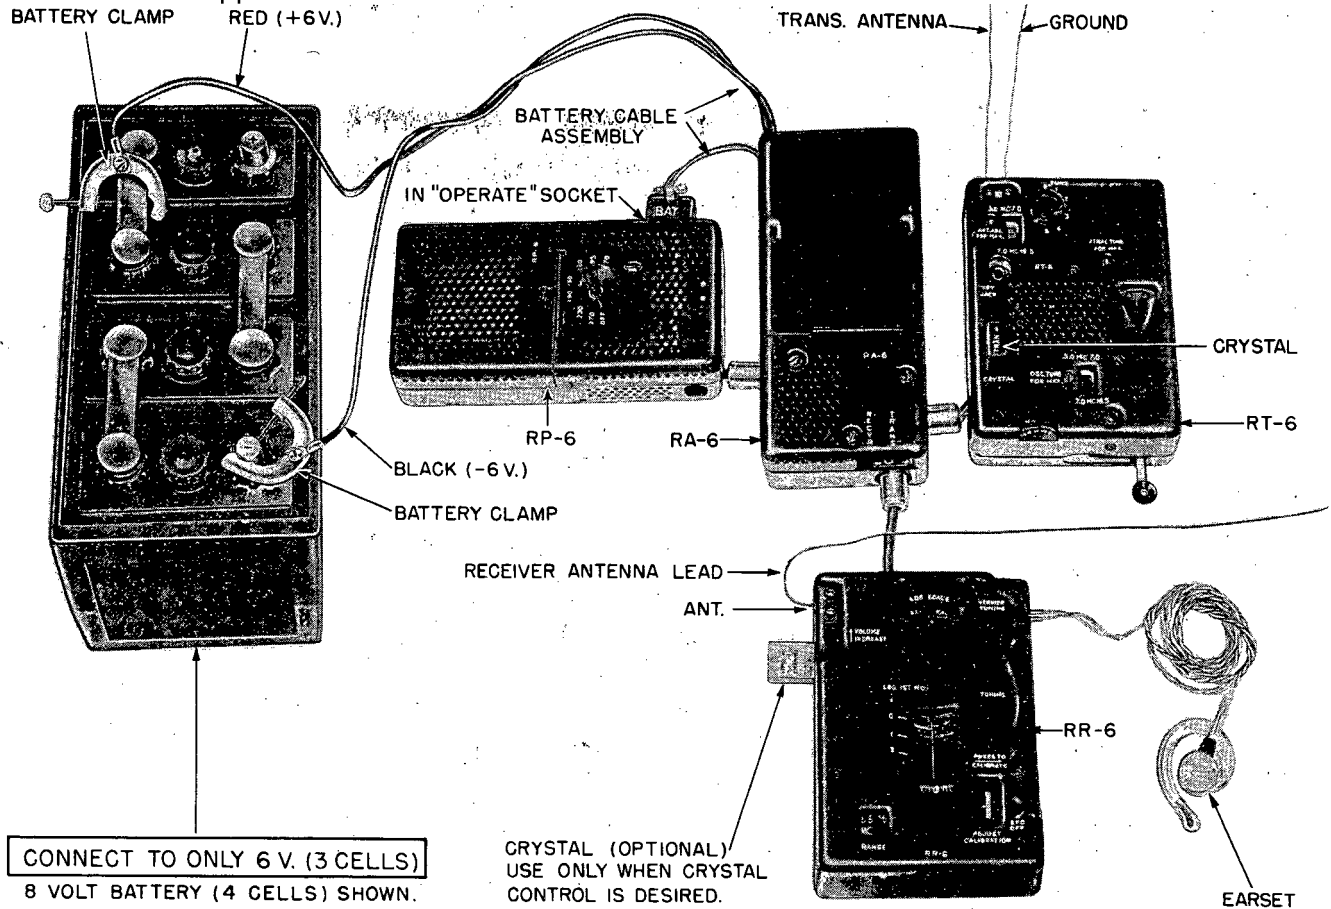

Figure 5. Radio Station RS-6 battery operation hook-up
c. Connect equipment as shown in Figure 5 (receiver crystal shown is optional).
(1) Use only 6V storage battery source. If only an 8 or 12 volt storage battery is available, connect only across 6 volts (3 cells) of the battery. See Figure 5.
(2) The Jones plug marked BATT must be inserted in the OPERATE receptacle on Power Supply RP-6 before the battery clamps are connected to storage battery, otherwise "hot" terminals will be exposed and equipment